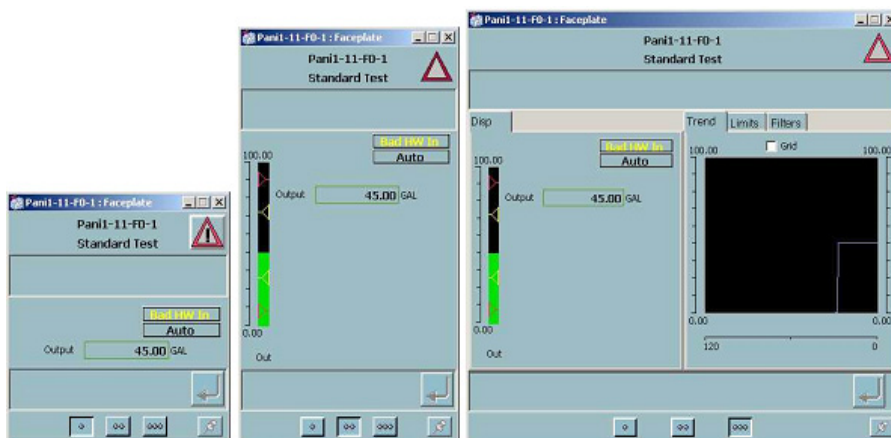

Figure 184. ANI Module
**Analog Input (ANI).** Analog input faceplates are representations of 800xA for DCI analog input tags. An ANI module reports the current analog value, range, alarm levels, engineering units, filter constants, pulse rate, alarm status and quality that are presented in these faceplates. Figure 184 shows the layout of the ANI reduced, normal, and extended sized faceplates and its attributes.